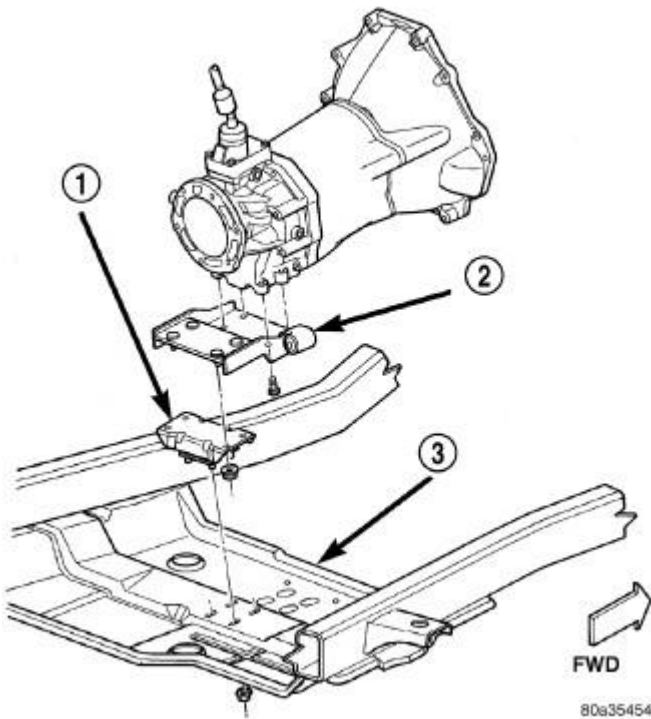

Fig. 159: Rear Mount (Manual Transmission)
8. Position the support cushion (2) to the transmission mount bracket and install nuts. Refer to **Fig. 159**.